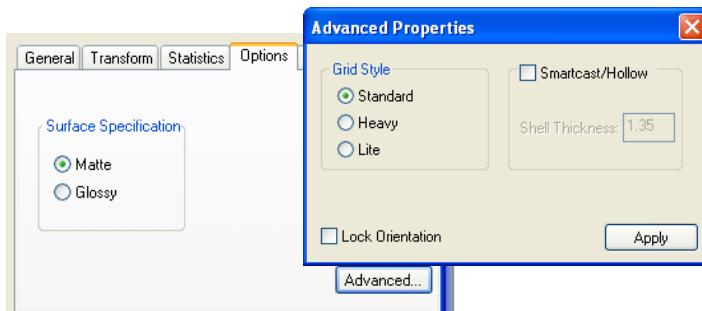

Figure 5-35:Advanced Properties dialog box—Grid Style selection
2. In the *Options* tab of the object properties dialog box, click *Advanced*. The *Advanced Properties* dialog box opens (see figure 5-35).